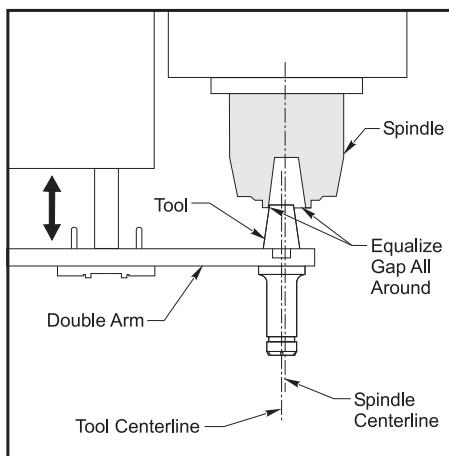

Figure 3-70 Double Arm to Spindle Center Alignment, along the Y-axis.
3. Raise and lower the double-arm to move the tool in and out of the spindle. Check for alignment. Refer to Figure 3-70.
4. Check the x-axis alignment of the tool holder to the spindle center. Refer to Figure 3-70